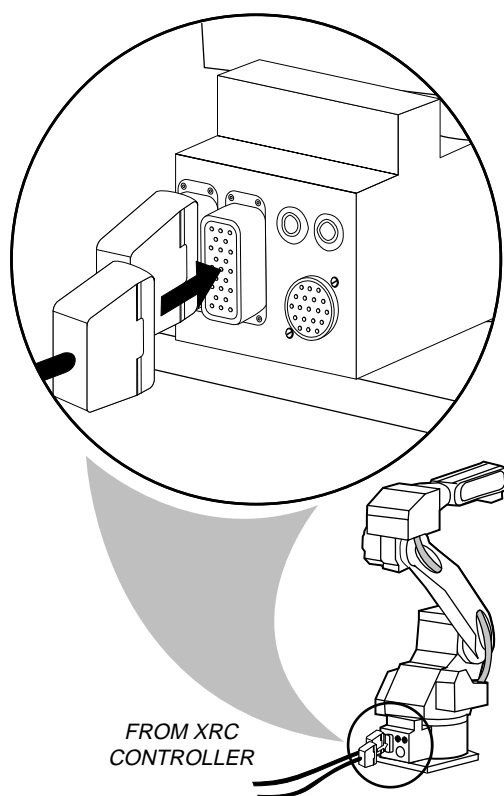

Figure 4-25 Robot Cables and Hoses Connecting the XRC to the Robot
1. Carefully engaging connectors, connect two large black cables (labeled 1BC and 2BC) on XRC to 1BC and 2BC connections on back of robot (see Figure 4-25).